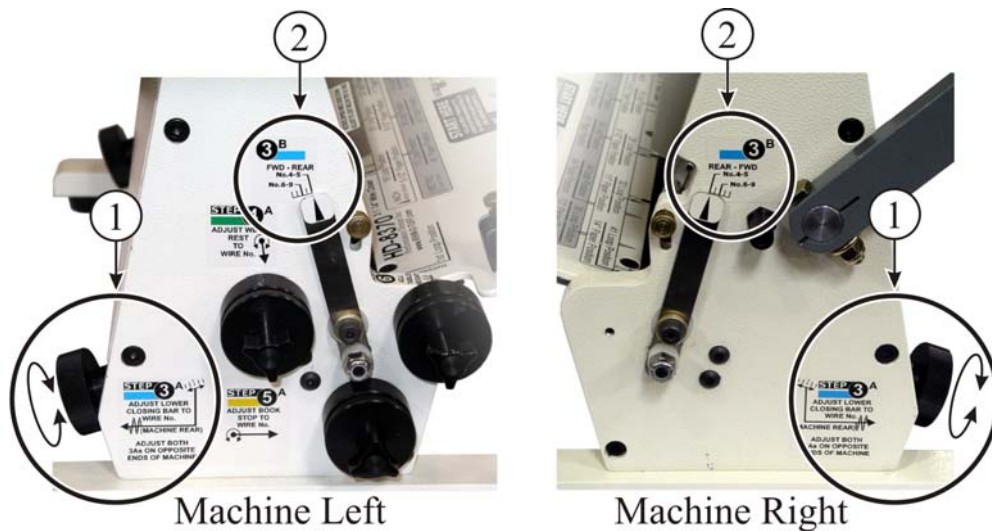

Fig. 3
**STEP 3A & 3B BLUE, Adjust Lower Closing Bar: See Figure 3.**
Locate Both Step 3A decals on both sides of the machine in Fig. 3 balloon (1). Adjust the Closing Lower Bar Knobs located behind the machine to the Wire No. 4 Position of the 3B (2) decals. This is the recommended start point of No.4 and 5 wires. Further adjustments may be required here, but for now follow the steps in order.